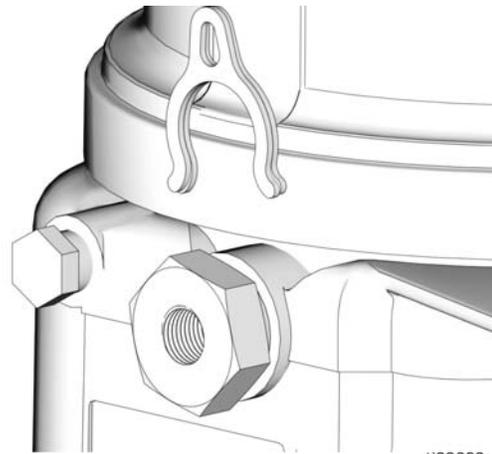

FIG. 20
Pump volume control is set using either no (0) spacers, 1 or 2 spacers (FIG. 20).